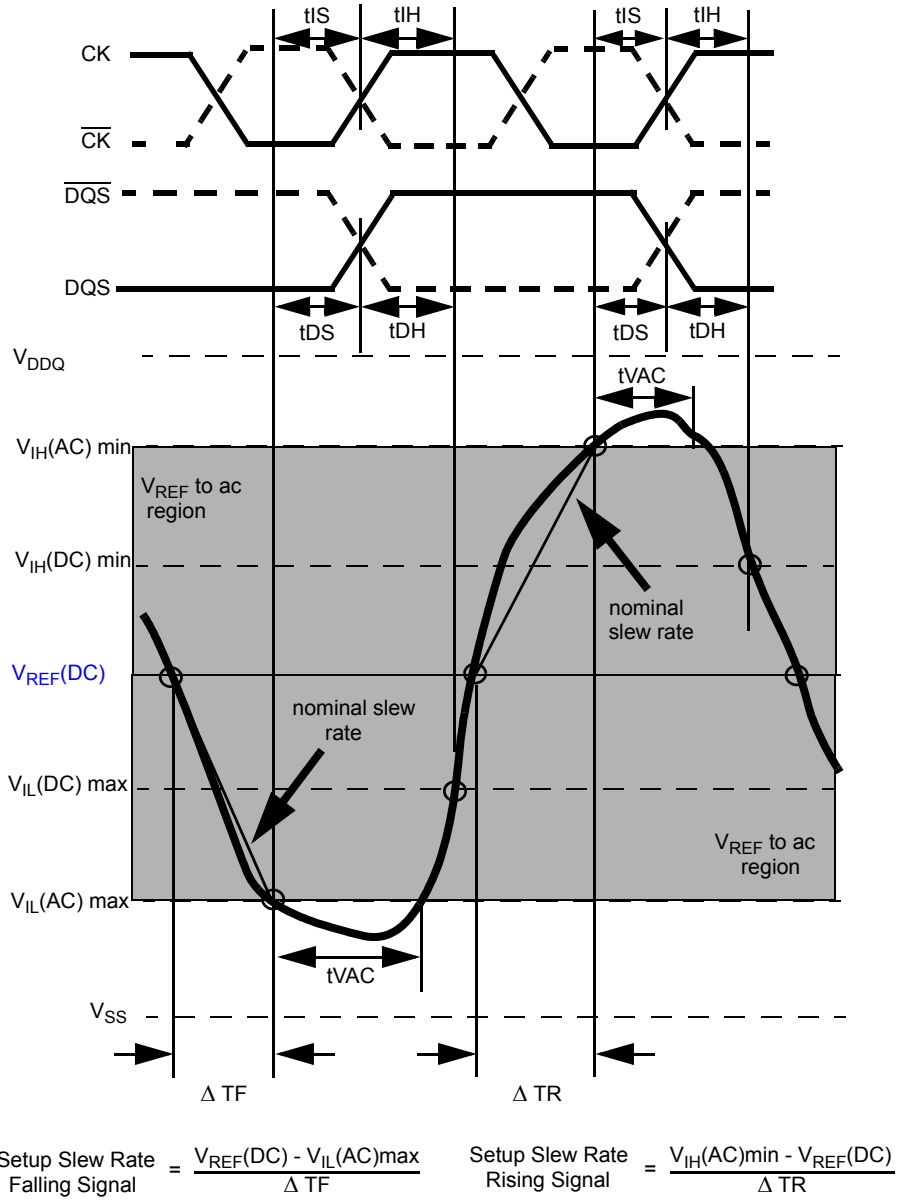

Figure 25. Illustration of nominal slew rate and t_{VAC} for setup time t_{DS} (for DQ with respect to strobe) and t_{IS} (for ADD/CMD with respect to clock).
Setup (tDS) nominal slew rate for a rising signal is defined as the slew rate between the last crossing of V_{REF}(DC) and the first crossing of V_{IH}(AC)min. Setup (tDS) nominal slew rate for a falling signal is defined as the slew rate between the last crossing of V_{REF}(DC) and the first crossing of V_{IL}(AC)max (see Figure 25). If the actual signal is always earlier than the nominal slew rate line between shaded 'V_{REF}(DC) to ac region', use nominal slew rate for derating value. If the actual signal is later than the nominal slew rate line anywhere between shaded 'V_{REF}(DC) to ac region', the slew rate of a tangent line to the actual signal from the ac level to dc level is used for derating value (see Figure 27).